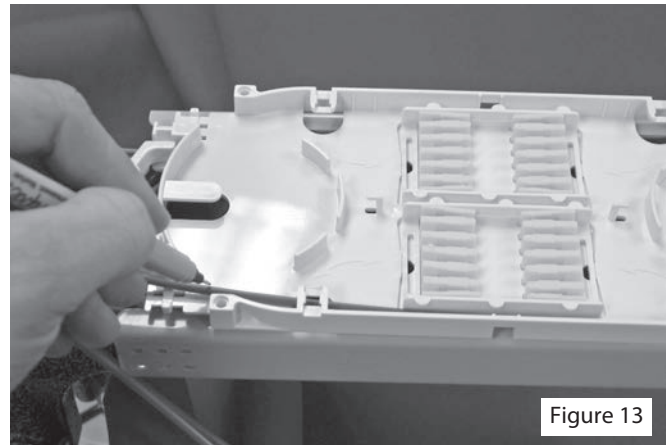

Figure 13
- Route the loose buffer tubes from the drop cable either to the basket for slack storage or directly to the tray for splicing. (Fig. 13)
- Route the LBT to be spliced onto the tray, making sure there is enough length for tray hinging. Mark the tube 1" from the back of the tray (as shown Fig 13). Ring cut and remove buffer tube.